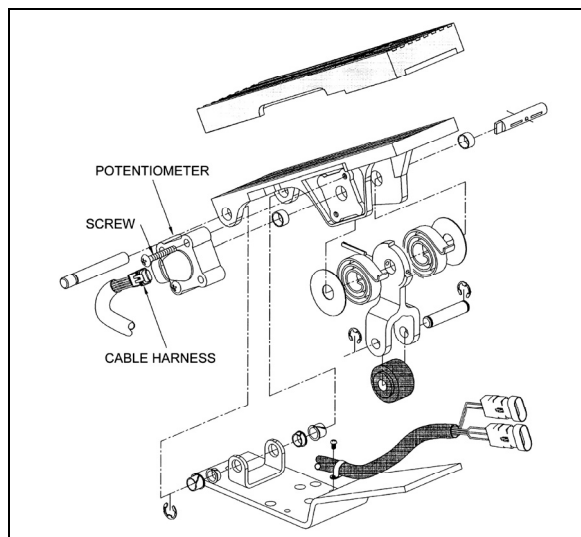

FIGURE 23: ELECTRONIC FOOT PEDAL ASSEMBLY
3. Discard potentiometer (Fig. 23).